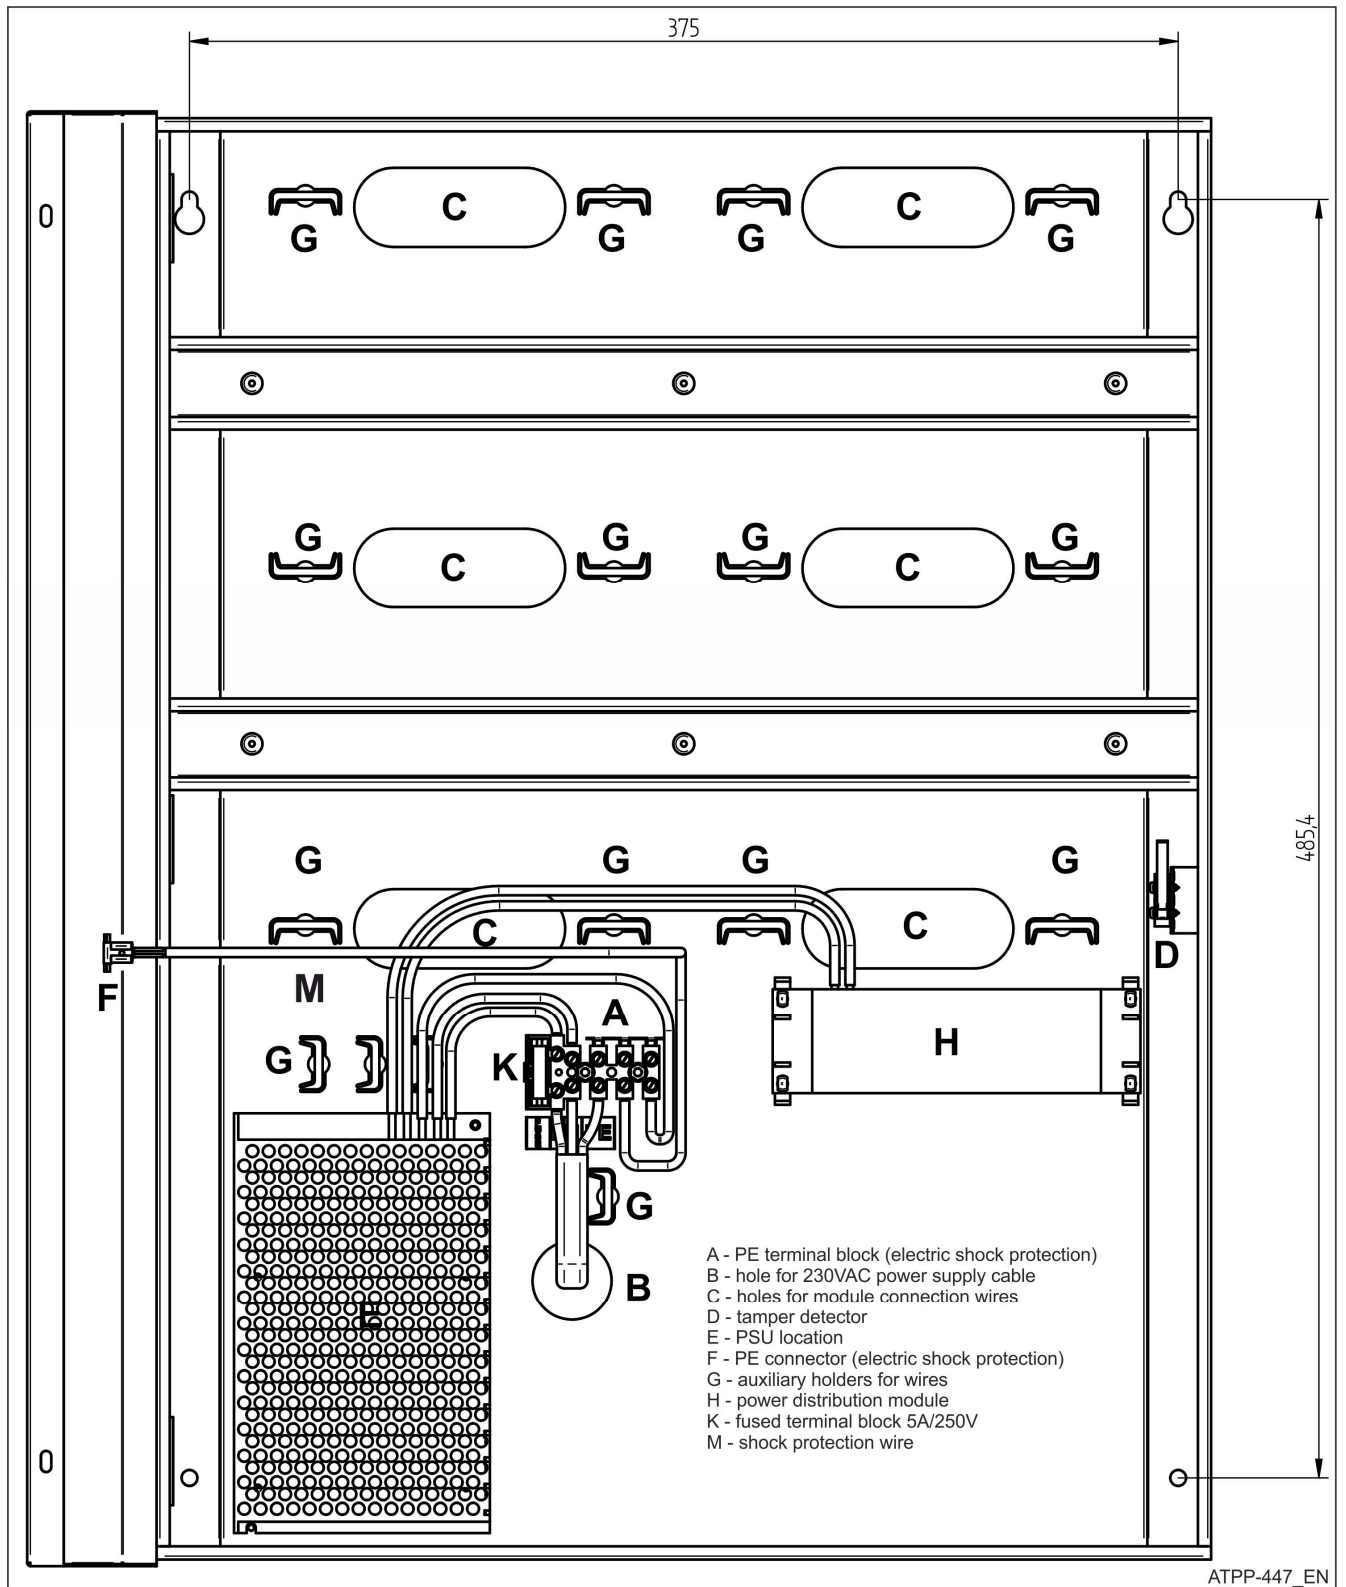

Fig. 2 Internal view of ME-43-S enclosure
6. Protective wire M connected to the terminal block A, should be connected to the F connector of the anti-shock protection PE located on the enclosure door (Fig. 2).